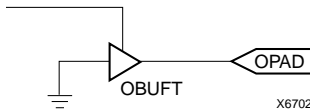

Figure 19: Open-Drain Output
An output can be configured as open-drain (open-collector) by placing an OBUFT symbol in a schematic or HDL code, then tying the 3-state pin (T) to the output signal, and the input pin (I) to Ground. (See Figure 19.)